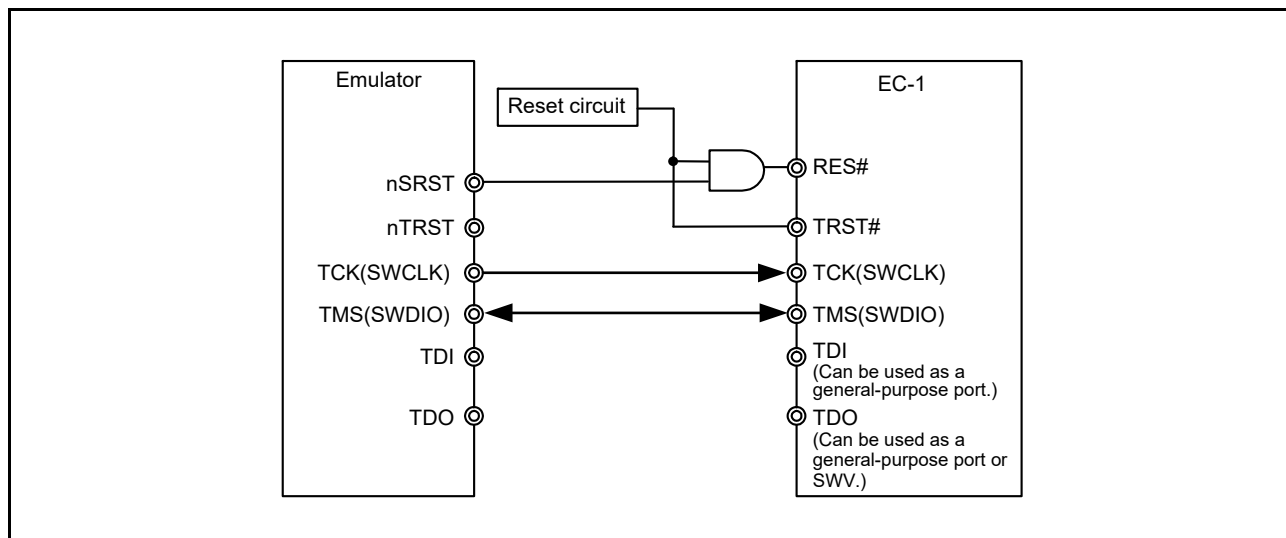

Figure 10.3 Example Connection of the SWD Interface
The SWD (Serial Wire Debug) interface uses two signals (SWCLK (TCK) and SWDIO (TMS)) to communicate with the host machine (PC) via the emulator. Figure 10.3 shows an example connection, which includes the RES# pin connection.